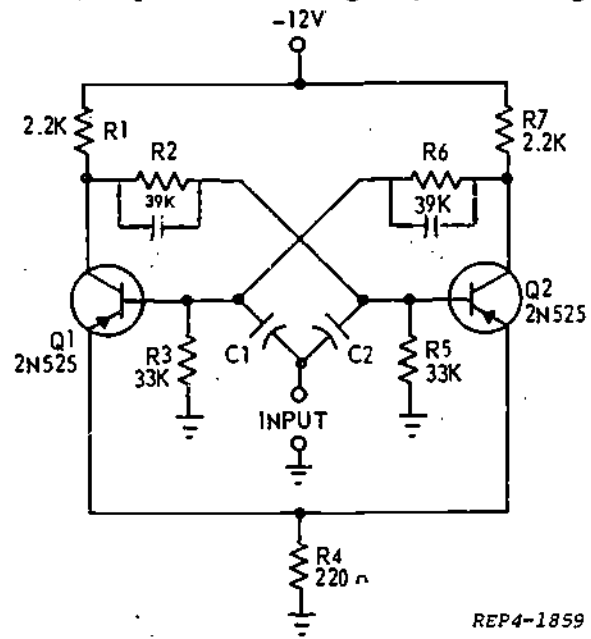

Figure 10
For questions 1 through 13, refer to Figure 10 and Chart 4 as necessary.
1. The Figure 10 schematic diagram is correctly identified as a/an _____
2. Given Chart 4 as the waveshapes for the Figure 10 circuit with waveshape "A" labeled as V_{BQ1}, label the remaining waveshapes.
- 5. Given: The PRT of the input trigger to the Figure 10 circuit is 500 microseconds. The PRF of the output is _____ kHz.